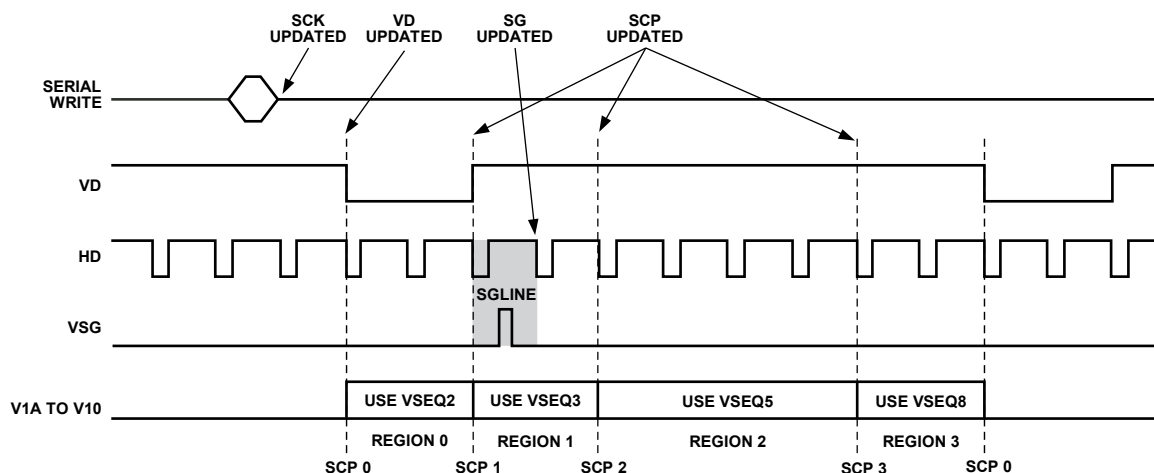

Figure 88. Register Update Locations (See Table 45 for Definitions)
- **SCP Updated**—All V-pattern and V-sequence registers are updated at the next SCP where they are used. For example, in Figure 88, this field has selected Region 1 to use V-Sequence 3 for the vertical outputs; therefore, a write to a V-Sequence 3 or V-pattern group register, which is referenced by V-Sequence 3, is updated at SCP 1. If there are multiple writes to the same register, only the last one before SCP1 is updated. Likewise, a register write to a V-Sequence 5 register is updated at SCP 2, and a register write to a V-Sequence 8 register is updated at SCP 3.